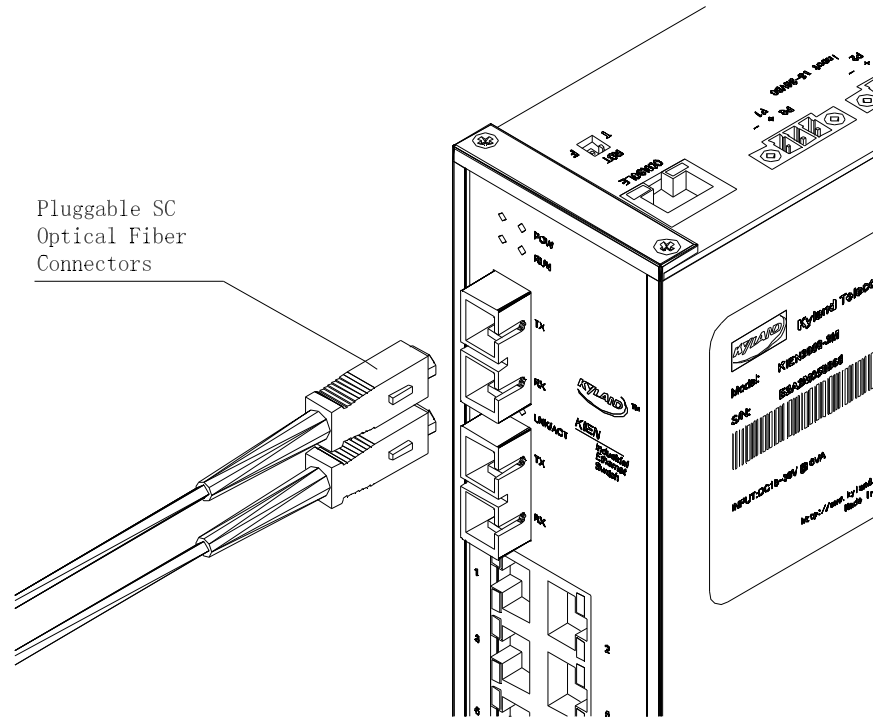

Figure 4-6 Connection of Optical Ports
- 3 . Connect one side of the optical fiber with an optical port of the switch and connect the other side with an optical port of another unit, as showed in the Figure 4-6.n